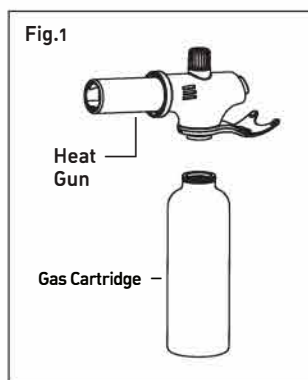

Fig.1
- 1.3 Place the valve on top of the Gas Cartridge valve. (Fig.1)